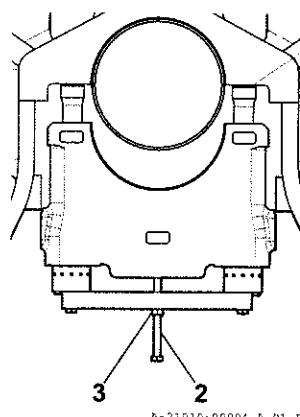

Fig. 2 Removing the main bearing cap
9. Turn the nut 3 to remove the main bearing cap. (Refer to Fig. 2.)